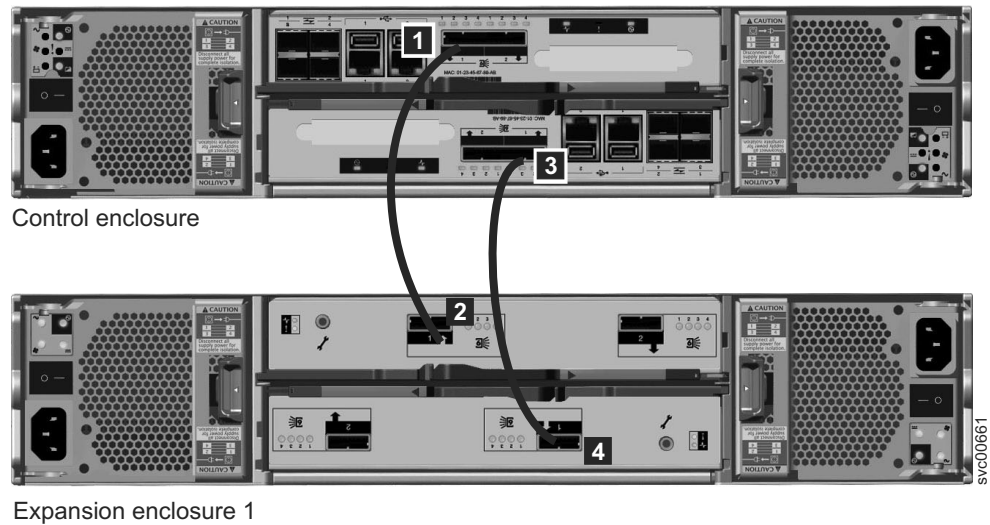

Figure 32. Attaching an expansion enclosure to the control enclosure
2. Attach the SAS cables from the control enclosure to the first expansion enclosure as shown in Figure 32. Remove the protective end covers, if necessary. The first expansion enclosure is below the control enclosure.